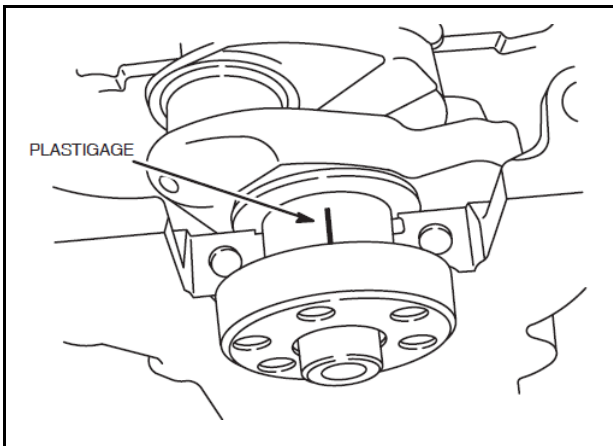

Fig.4-Install Plastigage
- a. Lay a strip of plastigage lengthwise on journal, Fig.4.